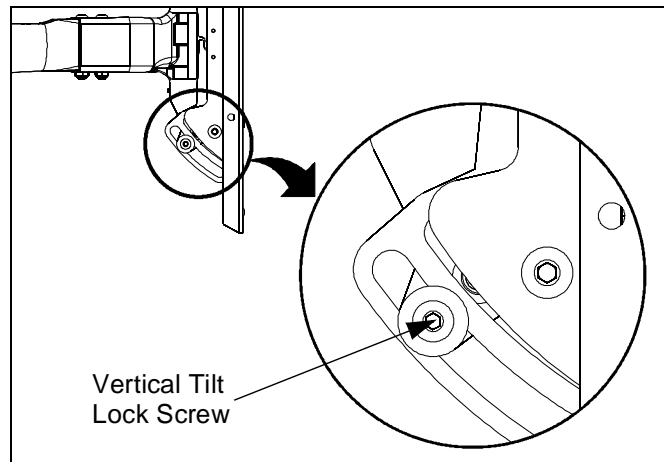

Figure 11
3. To lock the mount at the desired vertical tilt, tighten the vertical tilt lock screw. (See Figure 11)